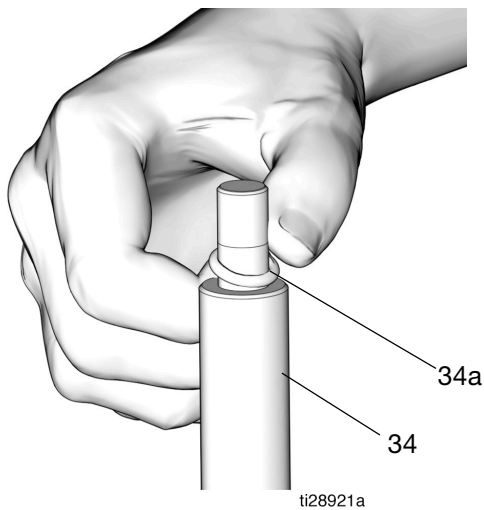

FIG. 29
4. Use a clean cloth to wipe down the piston rod (34) and the piston (5) to remove any dirt or contaminants. Inspect surfaces for any scratches or damage. Replace damaged parts.
5. Apply a thin layer of grease to the o-ring (34a). Install o-ring over the grooves of piston rod (34) (FIG. 29).